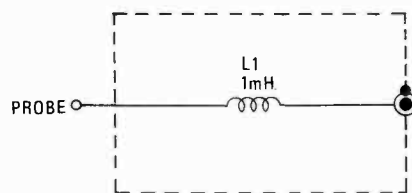

Fig. 6. Here we show a probe used for transmitter measurements in broadcasting. The 1-mH choke suppresses the RF that gets to the probe from the surroundings.
**Isolation.** Another problem is the matter of isolation from external fields. The classical problem is taking a look at a waveform in the presence of interfering electromagnetic fields. The classical solution to the problem is insertion of an RF choke in series with the scope probe. Figure 6 shows a probe that